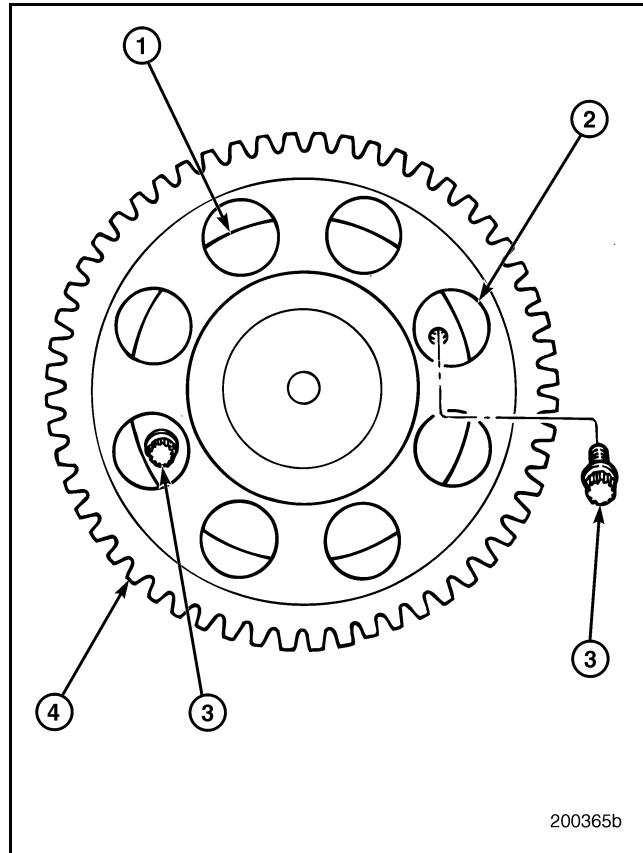

Figure 451 — Camshaft Thrust Washer Capscrews
4. Remove the two 12-point capscrews that retain the camshaft thrust washer. The camshaft may have to be rotated slightly to make the capscrews accessible through the openings in the camshaft drive gear. Refer to Figure 451.